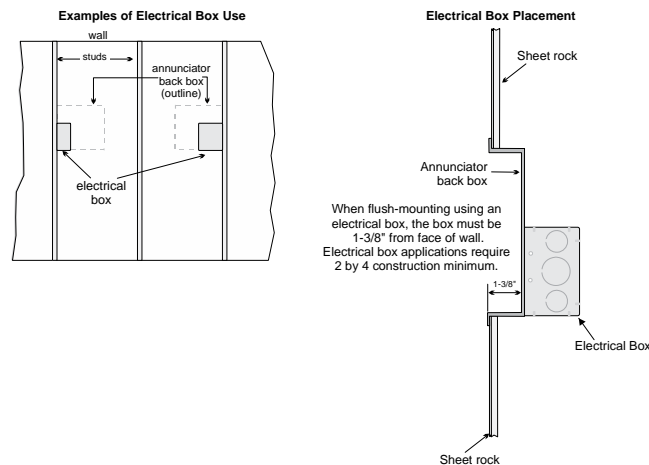

Figure 4-21 Placement of Electrical Box for Flush Mounting
1. Cut a hole in the sheet rock to the following dimensions: 8-1/4" W x 6-5/8"H. If an electrical box is used, the box must be 1-3/8" back from face of wall to accommodate the annunciator (see Figure 4-21).